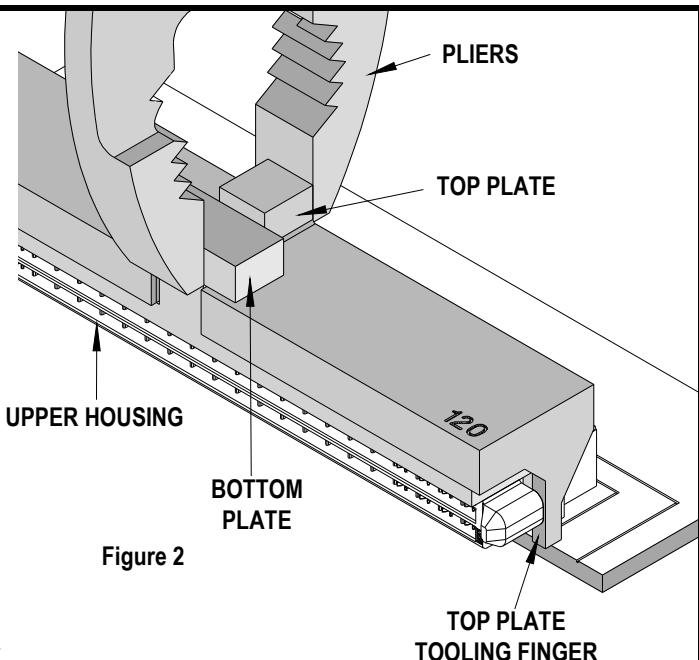

Figure 2
3. Be sure the top plate tooling finger is in the position over the lower tooling finger as far as it will go. See Figure 2.
1. Position a pair of pliers over the top plate and the "T" in the bottom plate. Squeeze the handles of the pliers until the jaws clamp firmly onto both plates. See Figure 2.